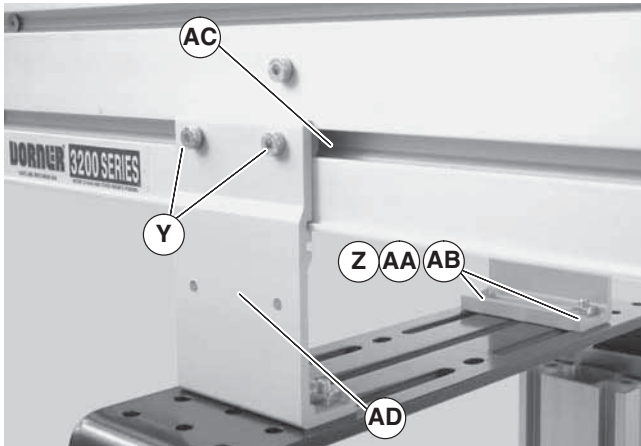

Figure 12
- Insert T-bars (Figure 10, item AC) & (Figure 11, item AC) into conveyor side slots (Figure 12, item AC). Fasten brackets (Figure 12, item AD) to conveyor with mounting screws (Y).
- Fasten brackets to support stand with mounting screws (Figure 12, item Z), washers (AA) and nuts (AB).
- Tighten screws (Figure 12, item Y & Z) to 60 in-lb (7 Nm).